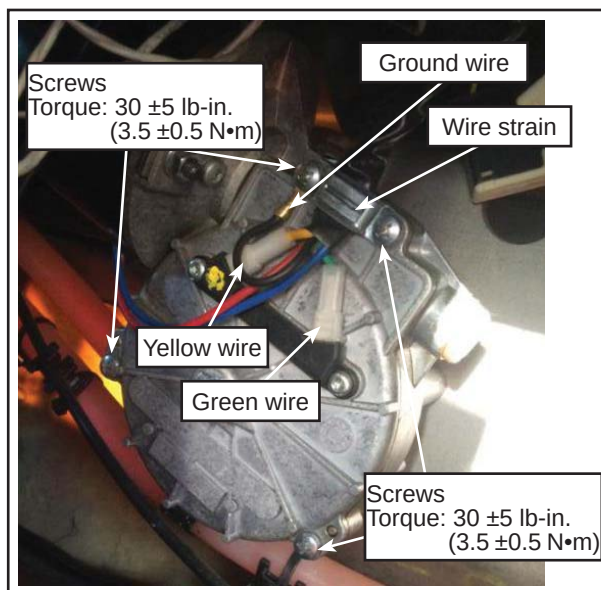

Figure 3 - Wiper Motor Cover
- 1.4. Disconnect the green and yellow wires from the cover. See Figure 3.
- 1.5. Remove the four screws from the wiper motor cover. Discard the cover. Retain the screws and the wiring strain relief strap. See Figure 3.
- 1.14. Install the cover's bottom screws (2x). See Figure 3. Use the retained hardware.
- 1.15. Install the black (ground) wire and the wiring strain relief strap with the cover's upper screws (2x). See Figure 3. Use the retained hardware.
- 1.16. Tighten the cover's four screws to the specified torque. See Figure 3.
- 1.17. Connect the green and yellow wires on the cover's terminals. See Figure 3.